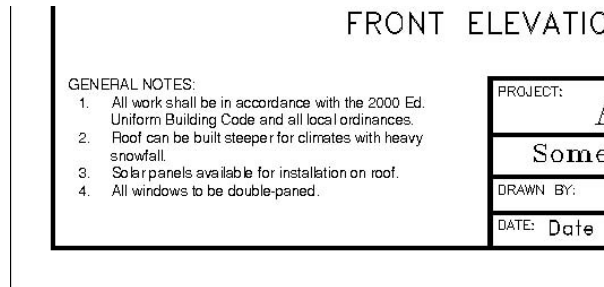

FIGURE 10.36: The results of a font modification
12. Click OK. The Mtext in the drawing has become more compact, and there is room for more notes (see Figure 10.36).